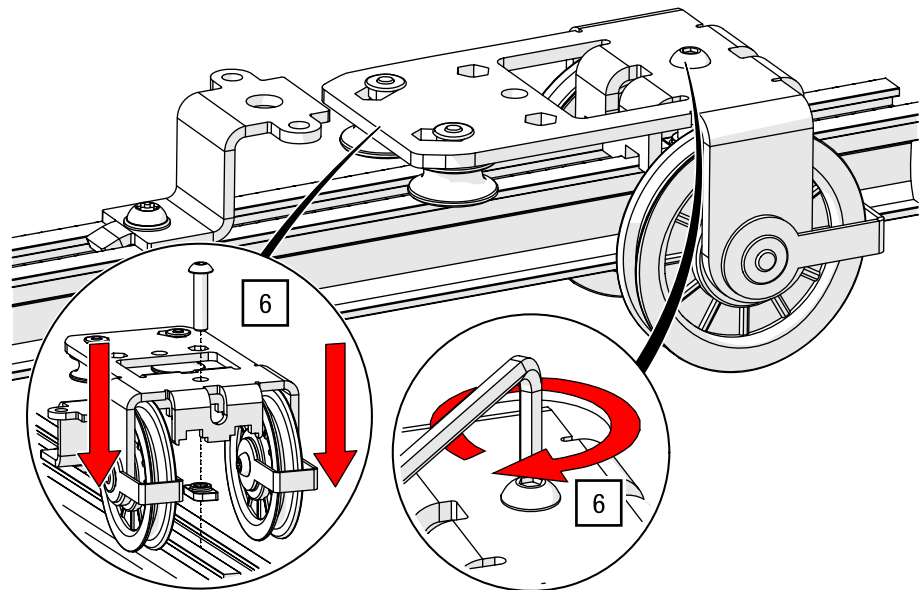

Fig. 78: Side cord operation – Mounting the side cord operation head pulley
6. Position the head pulley at the desired position and screw it tight with an Allen key AF 5 and 27 Nm (see Fig. 78).